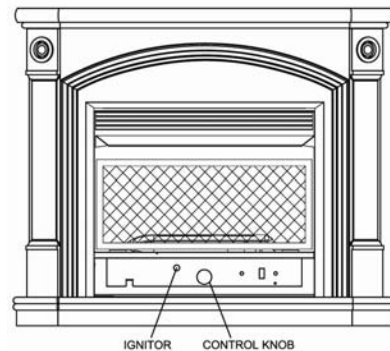

Figure 14
5. Turn control knob clockwise to the OFF position, see Figure 14.
6. Wait five (5) minutes to clear out any gas. Then smell for gas around heater and near floor. If you smell gas, **STOP!** Follow "B" in the safety information on Warnings plate. If you don't smell gas, go to the next step.
7. Turn control knob counterclockwise to the PILOT position. Keep control knob pressed in for five (5) seconds. **Note:** You may be running this heater for the first time after hooking up to gas supply. If so, the control knob may need to be pressed in for 30 seconds. This will allow air to bleed from the gas system. If control knob does not pop up when released, contact a qualified service person or gas supplier for repairs.
9. Keep control knob pressed in for 30 seconds after lighting pilot. After 30 seconds, release control knob. **Note:** If pilot goes out, repeat steps 3 through 8. This heater has a safety interlock system. Wait one (1) minute before lighting pilot again.